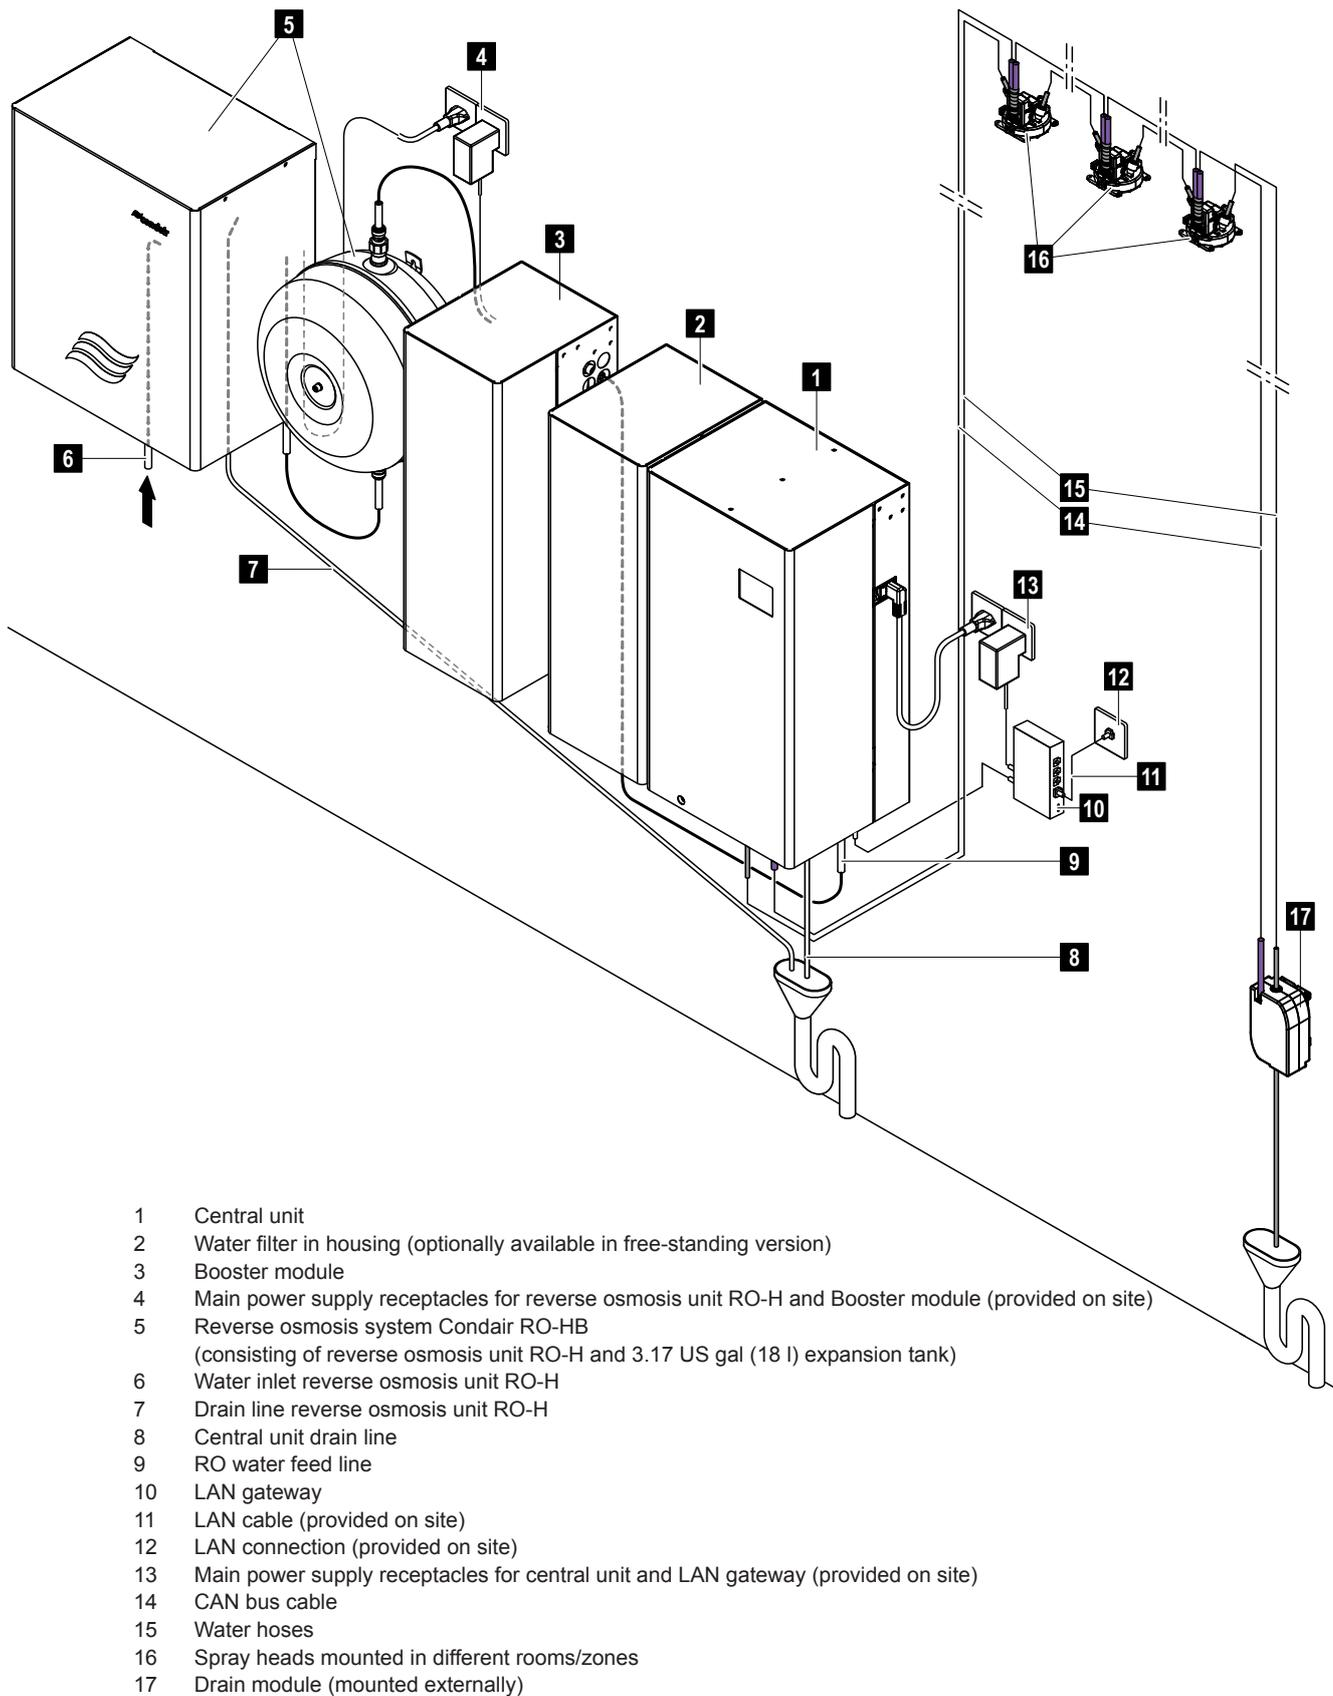

Fig. 4: Overview Condair MN system with one spray loop and external drainage of the spray loop and reverse osmosis system Condair RO-HB
- a internal drainage (drain module integrated into the central unit, see Fig. 1 and Fig. 2) or a external drainage (drain module installed in a separate room, see Fig. 3 and Fig. 4) per spray loop.